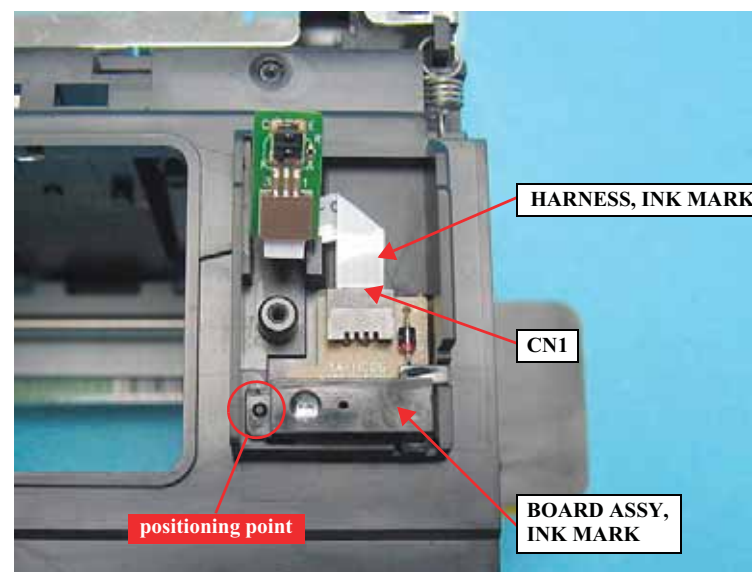

Figure 4-114. Removing the BOARD ASSY., INK MARK
3. Disconnect the HARNESS, INK MARK from CN1 connector on the BOARD ASSY., INK MARK, and remove the BOARD ASSY., INK MARK. *See Figure 4-114.*
Insert the positioning hole of the BOARD ASSY., INK MARK over the guide pin of the CARRIAGE, ASSY. to secure the BOARD ASSY., INK MARK. *See Figure 4-114.*